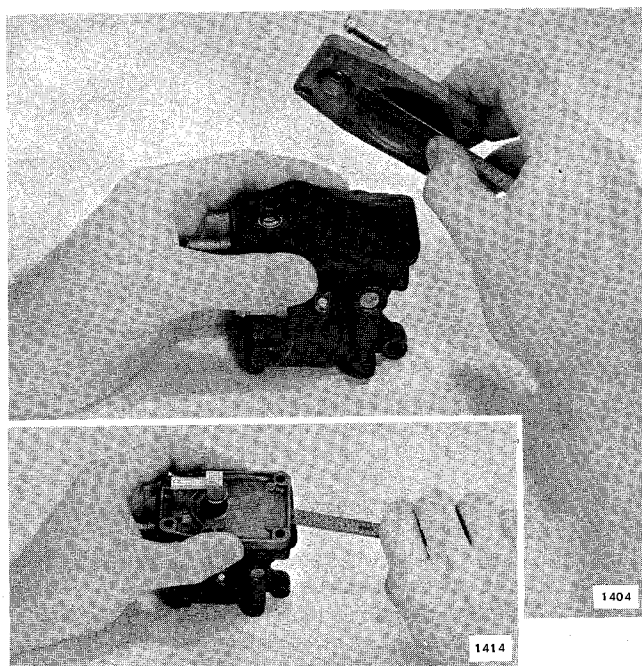

Figure 3-29. Reassembling Fuel Pump
b. To facilitate assembly of diaphragm and springs, a straight edge may be used to hold down the parts under the diaphragm while the screws are being attached. See Figure 3-29.